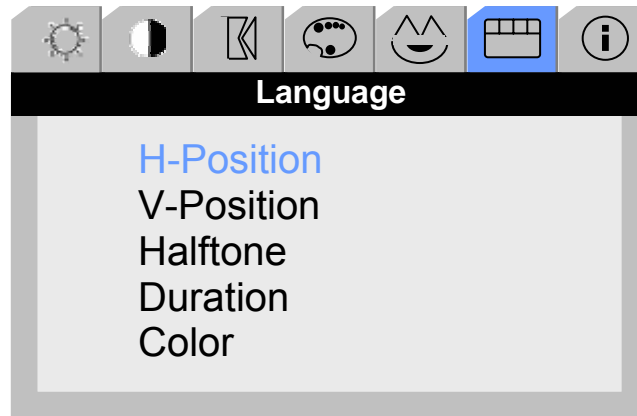

Figure 31: OSD Menu
2. Using the + or – button, choose the OSD tab, see Figure 31.